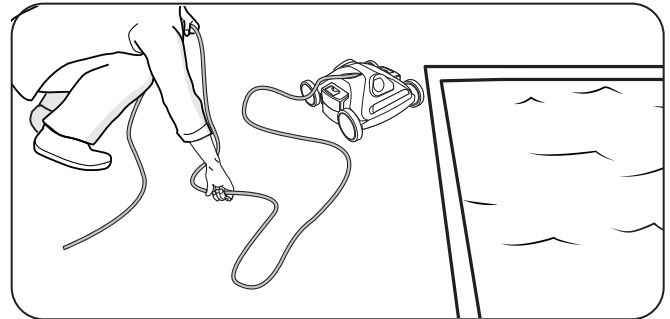

Figure 17. Untangle the Floating Cable
2. Start at the cleaner head, remove all coils and tangles from the floating cable. Lay the cable in the sun to loosen any tangling memory (Figure 17).